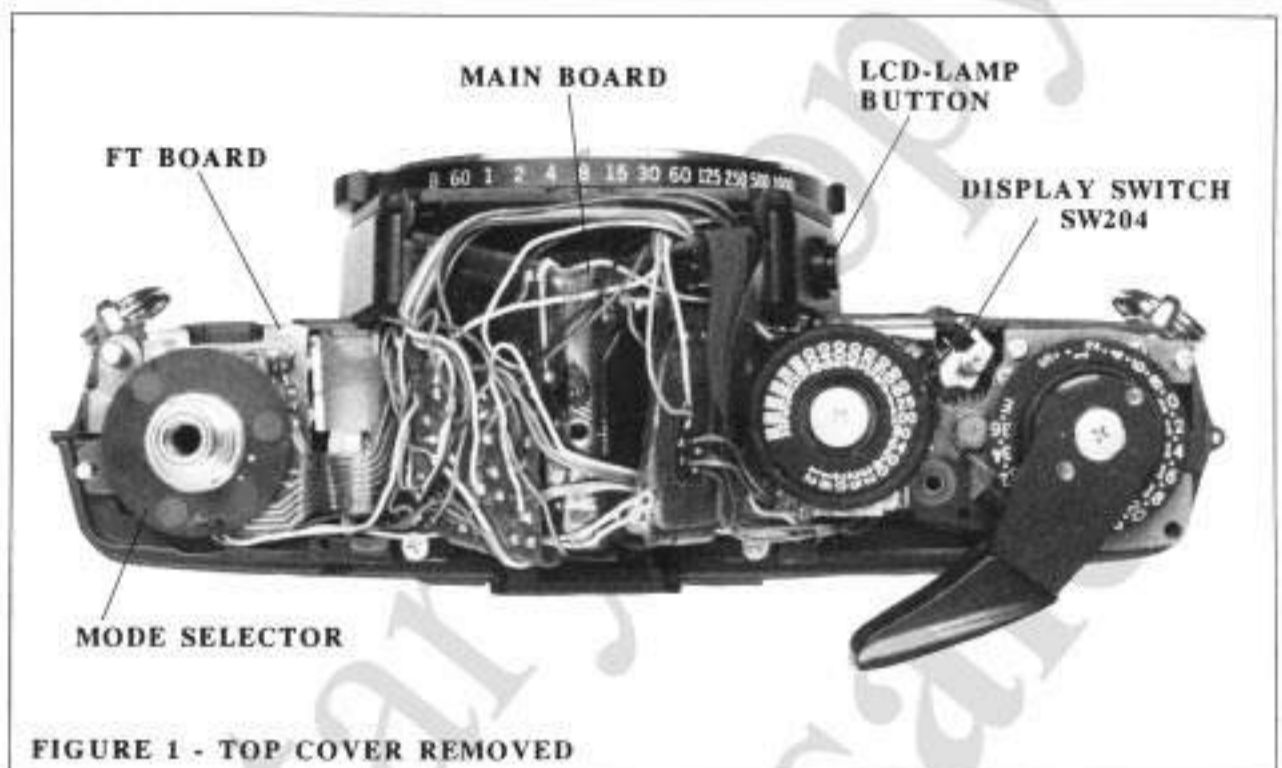
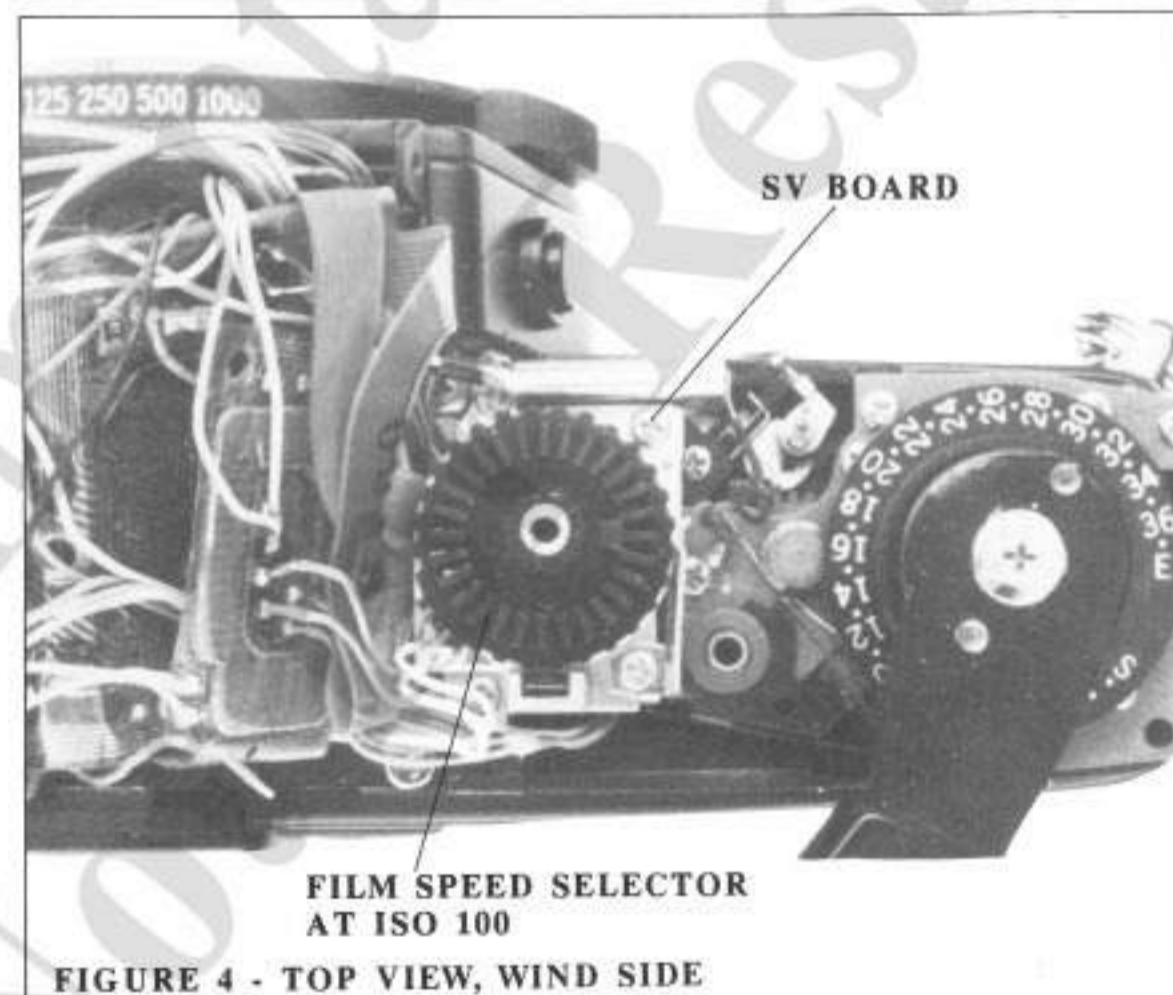

FIGURE 1 - TOP COVER REMOVED
FIGURE 4 - TOP VIEW, WIND SIDE
- Fig. 1 -- top cover removed
- Fig. 4 -- top view, wind side
Note: With the top cover removed, set the mode using the letter symbols on the mode selector, Fig. 1; align the appropriate bar on the mode selector with the positioning screw. Set ISO 100 by aligning the square post on the film-speed selector with the detent, Fig. 4.
- a. settings -- ISO 100, Fig. 4
- a. settings -- ISO 3200 (SV selector, Fig. 4, fully clockwise)